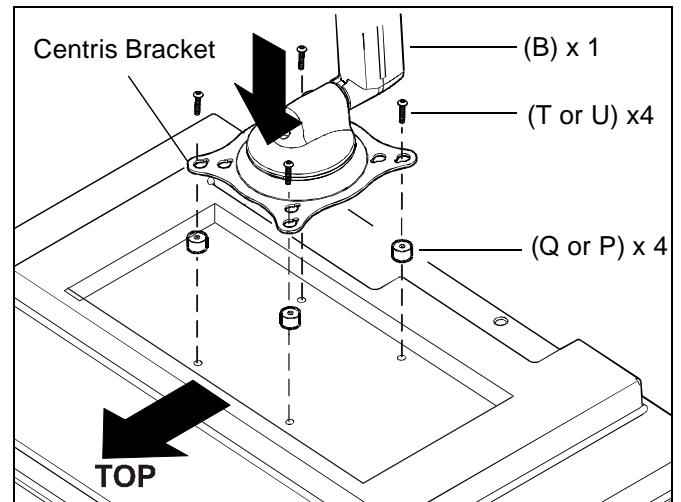

Figure 51
3. Determine depth of recessed mounting holes relative to back surface of display (against which Centris head will contact). (See Figure 51)
4. Select proper length spacer and screw. (See Figure 51)
6. Pick up and orient the mount (B) so that the mounting holes in the Centris bracket are aligned with the holes in the spacers; rotate the bracket as required. (See Figure 51)
7. Using Phillips screwdriver, install four M4 x 20 (T) or M4 x 30 (U) Phillips pan machine screws through the mounting holes in Centris bracket, through the spacers (Q or P), and into the display. (See Figure 51)